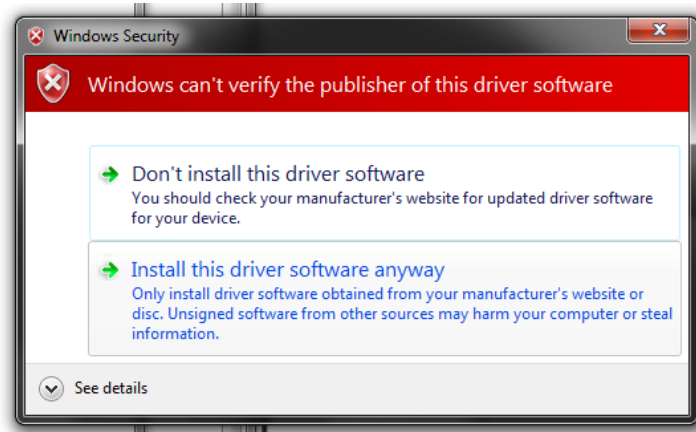

Figure 5: "Windows can't verify the publisher of this driver software"
7. Next, as shown in Figure 5 click on the browse button and navigate to the install directory for the USB driver that is located here:
8. A warning will pop up as shown in Figure 5, please select “Install this driver software anyway”.